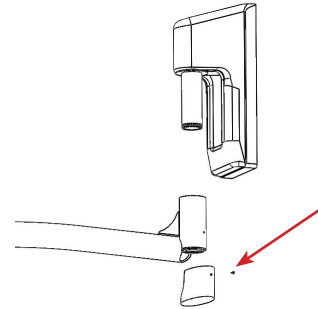

FIGURE 2.8 - Rotary Cap
STEP 1: Remove the phillips head screw on the spring arm rotary cap. Refer to FIGURE 2.8